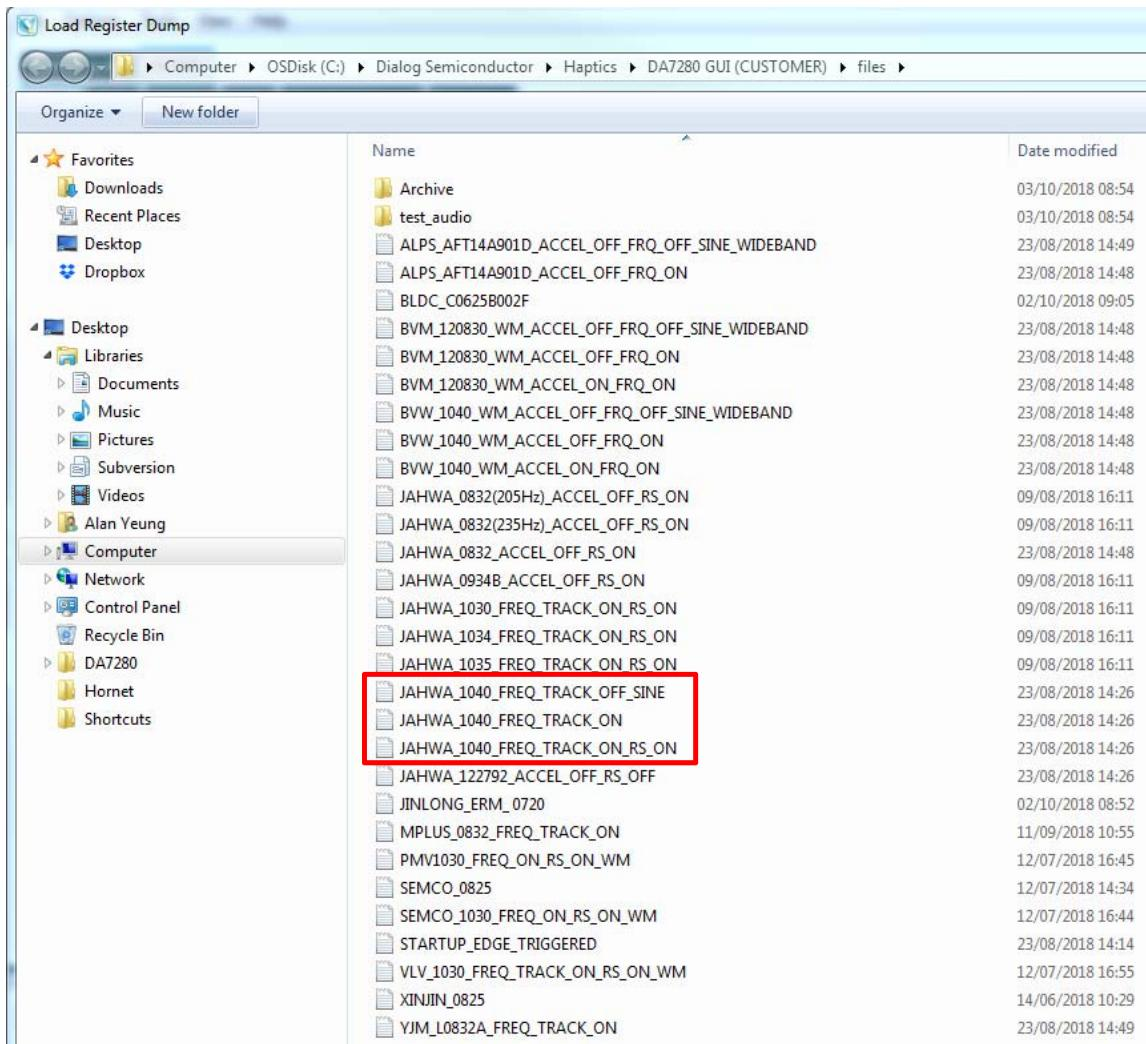

Figure 13: Load Register Dump
2. Select the required .txt download script for the Jahwa LRA from the **Load Register Dump** popup window, see Figure 13. For the supplied LRA only download scripts with 'JAHWA\_1040' prefix.